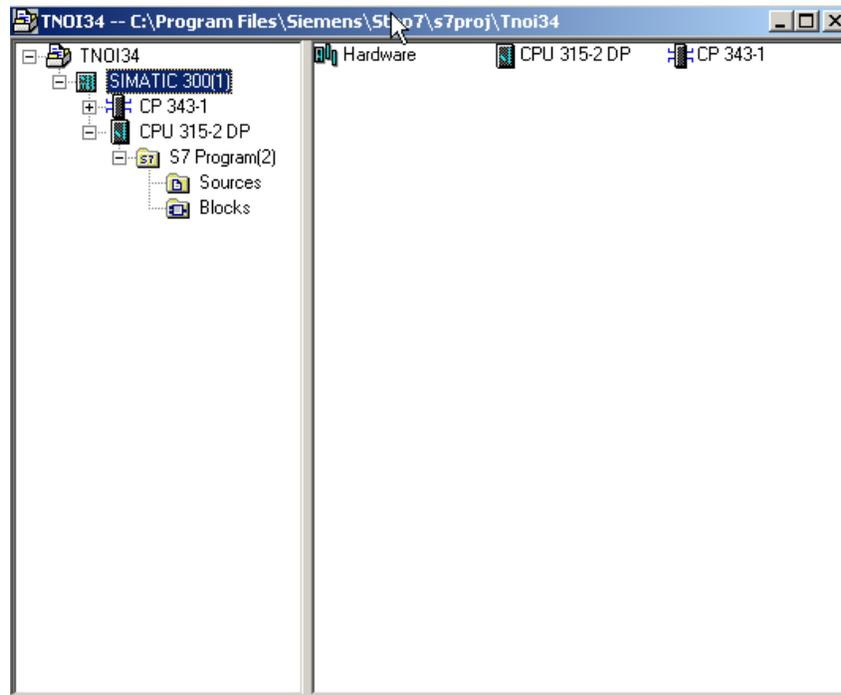

Figure 13.
5. Click **OK** to close all popup windows and return to HW Config. Save the configuration and close HW Config. The project manager should now display the CP343-1 communication card in the tree, as shown in Figure 13.
Now a connection between the PLC and the G3 HMI must be created. This connection is set up using Net Pro. Select PLC CPU and double click on the *Connections* icon to access the NetPro configuration tool, as shown in Figure 13.